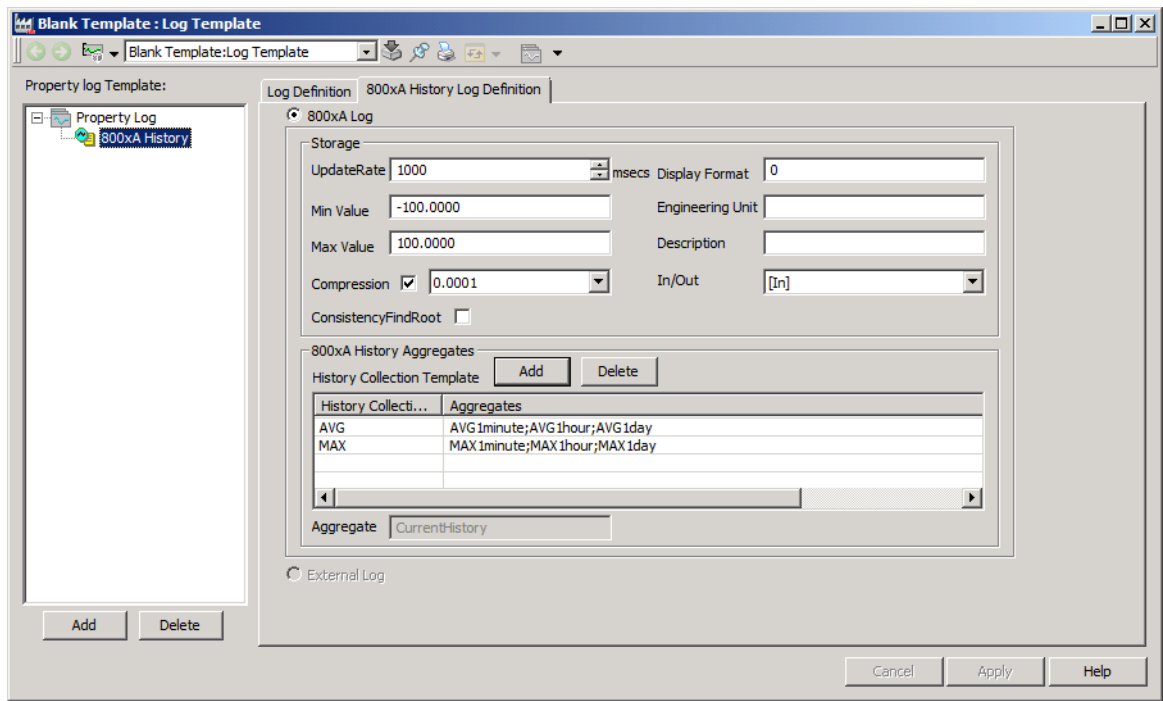

Figure 202. Log Template
2. In the **Log Template** window, select **800xA History Log Definition** tab as shown Figure 202.